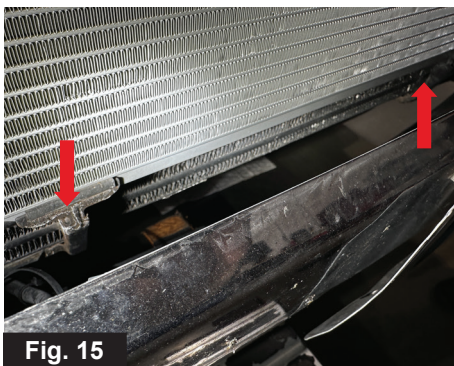

Fig. 15
12. Install the PPE heat exchanger assembly into the vehicle. Make sure that the tabs on the bottom of the PPE heat exchanger assembly are fully seated on the support bracket. (Fig. 15)